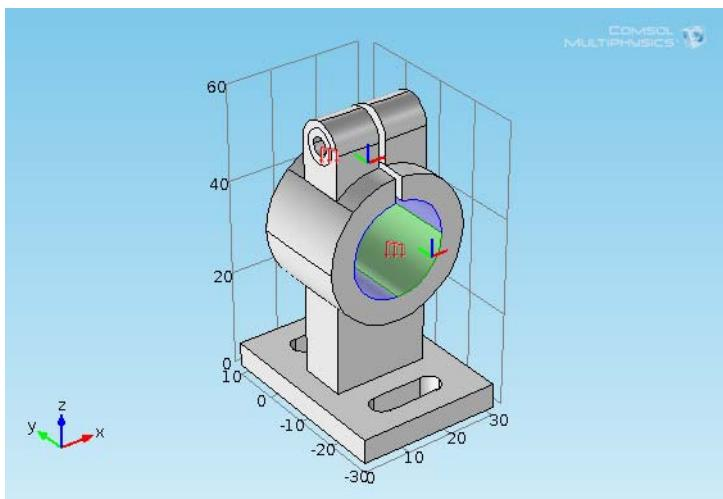

Figure 15-5: Example of the Boundary Load physics symbols as displayed in the COMSOL Multiphysics Model Library model Deformation of a Feeder Clamp.
- 4** When adding the boundary, edge, or point (a geometric entity) to the **Selection** list in the feature settings window, the symbol displays in the **Graphics** window. See Figure 15-5.